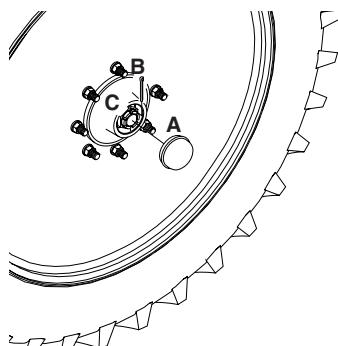

Fig 44
- 4 Remove the hub cap (A Fig 44) and cotter pin (B Fig 44). Turn the wheel and tighten castelated nut (C Fig 44) until slight resistance in wheel rotation is felt.